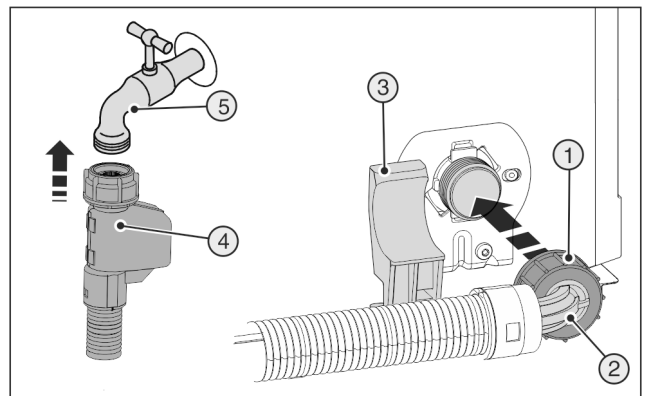

Fig. 22
- ▶ Connect the straight end of the hose Fig. 22 (4) to the stopcock Fig. 22 (5).